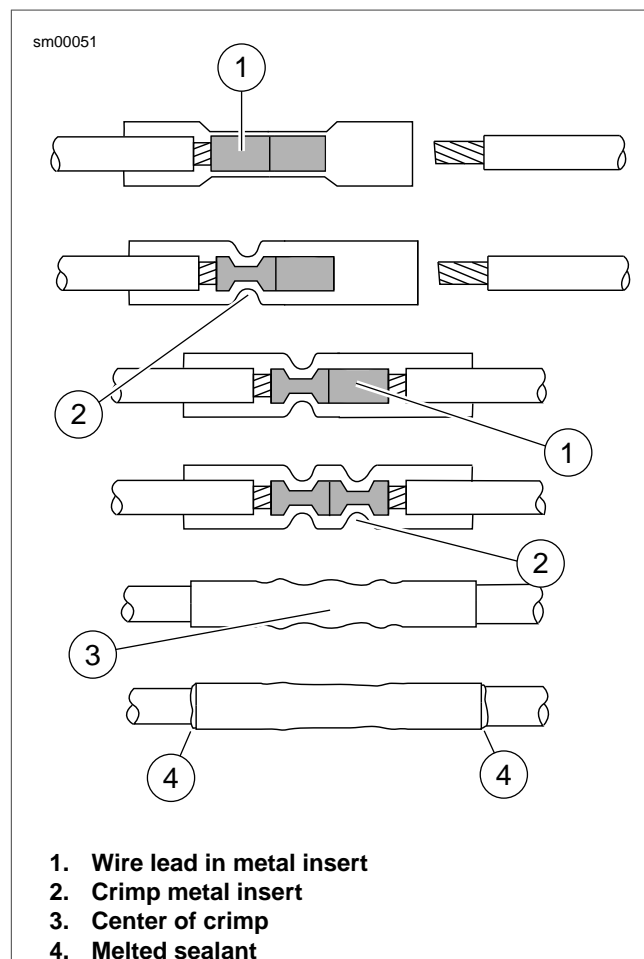

Figure A-48. Sealed Splice Connector
See Figure A-48. The connector is crimped twice - one side and then the other.
- See Figure A-48. Feed the stripped end of a wire into the connector until the wire stops inside the metal insert (1).
- Squeeze the handles tightly closed to crimp the lead in the insert (2). The tool automatically opens when the crimping is complete.
- Slide the connector to the other half of the metal insert. Insert the stripped wire lead (1) until it stops, and crimp the lead in the insert (2).
See Figure A-48. Allow the splice to cool and inspect the seal. The insulation should appear smooth and cylindrical. Melted sealant will have extruded out the ends (4) of the insulation.